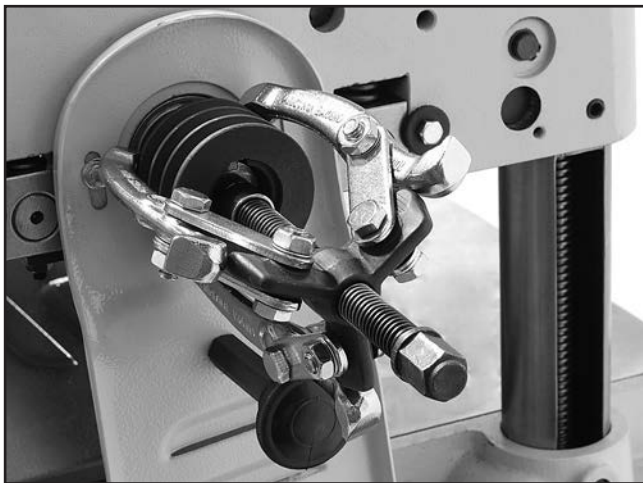

Figure 2. Pulley puller installed on cutterhead.
7. Remove pulley and key. If pulley is difficult to remove, use a pulley puller, as shown in **Figure 2** (see **Page 6** of this instruction sheet if you do not have a pulley puller).